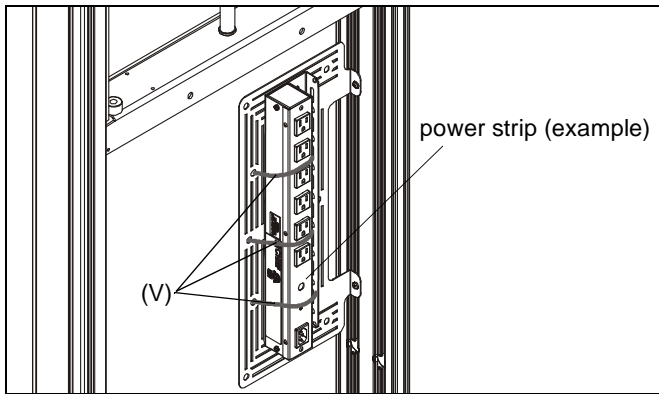

Figure 4
**WARNING:** Exceeding the weight capacity can result in serious personal injury or damage to equipment! It is the installer's responsibility to make sure the combined weight of all components installed to the accessory bracket (G) does not exceed 10 lbs (4.54 kg). Exceeding the weight capacity may result in damage to the equipment or components!
5. Install components to accessory bracket as desired using cable ties (V) or screws. (See Figure 4)